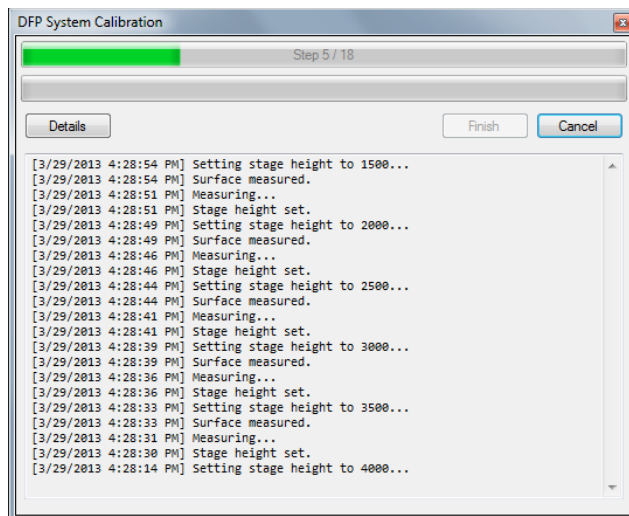

Figure 3.4 Calibration Progress Window
4. Press the Calibrate button on the bottom left of the Camera Window. The system will jog the optical flat down and then back up using the sample support stage. Measurements are taken along the way and a calibration profile including lens distortion is created. A dialog shows calibration progress (**Figure 3.4**). When the calibration is complete, clicking Finish will accept the new calibration results.